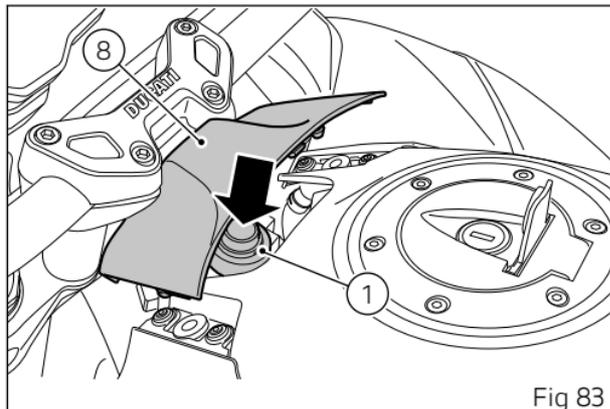
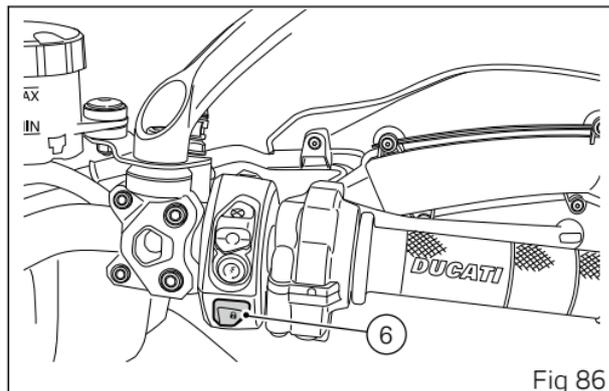

Fig 83
Fig 86
(Fig 83) indicates the position of the Hands Free unit (1), with protection lid (8) and (Fig 84) indicates the position of the antenna (2) under panel (9) at the key symbol.
Key-Off occurs when the speed of the motorcycle is equal to zero, by pressing button (6, Fig 86) on the handlebar or by pressing the Hands free button (1, Fig 83). When speed is not equal to zero, perform key-off by pressing the Hands free button (1, Fig 83).